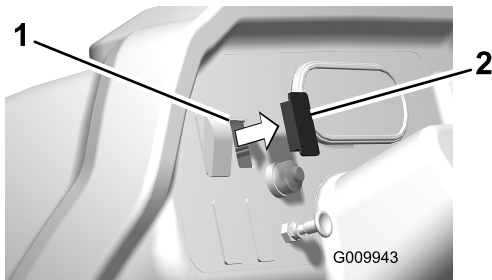

Figure 19
1. Remove a plug from an unused opening in the dash panel (Figure 19).